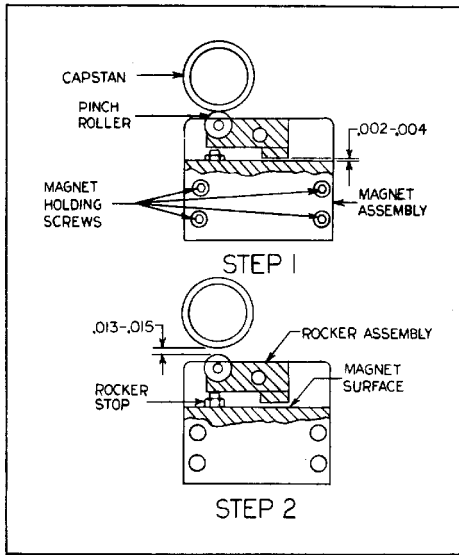

Figure 5-1.
Two separate drive systems are incorporated in the bi-directional model, one on each side of the reading head. On the right is placed the forward drive and on the left, the reverse drive. A continuously rotating capstan and an electromagnetically operated pinch roller constitute the drive system. Refer to Figure 5-1. When a drive magnet is energized (the brakes are simultaneously released), a rocker arm assembly, connected mechanically to the pinch roller, is actuated by the resulting magnetic field. This causes the
The following procedure describes the adjustments between the capstan, the rocker assembly and the magnet. Figure 5-1 illustrates the left drive system; the right drive is the mirror image.
- b. Energize the drive magnet. Refer to Section 3.3, step i. This should bring the pinch roller in contact with the capstan and the gap between the rocker assembly and the magnet surface should be as shown in Figure 5-1, Step 1.
- f. With the magnet de-energized, the rocker stop and the rocker assembly should be in contact and the gap between the capstan and pinch roller should be as shown in Figure 5-1, Step 2.